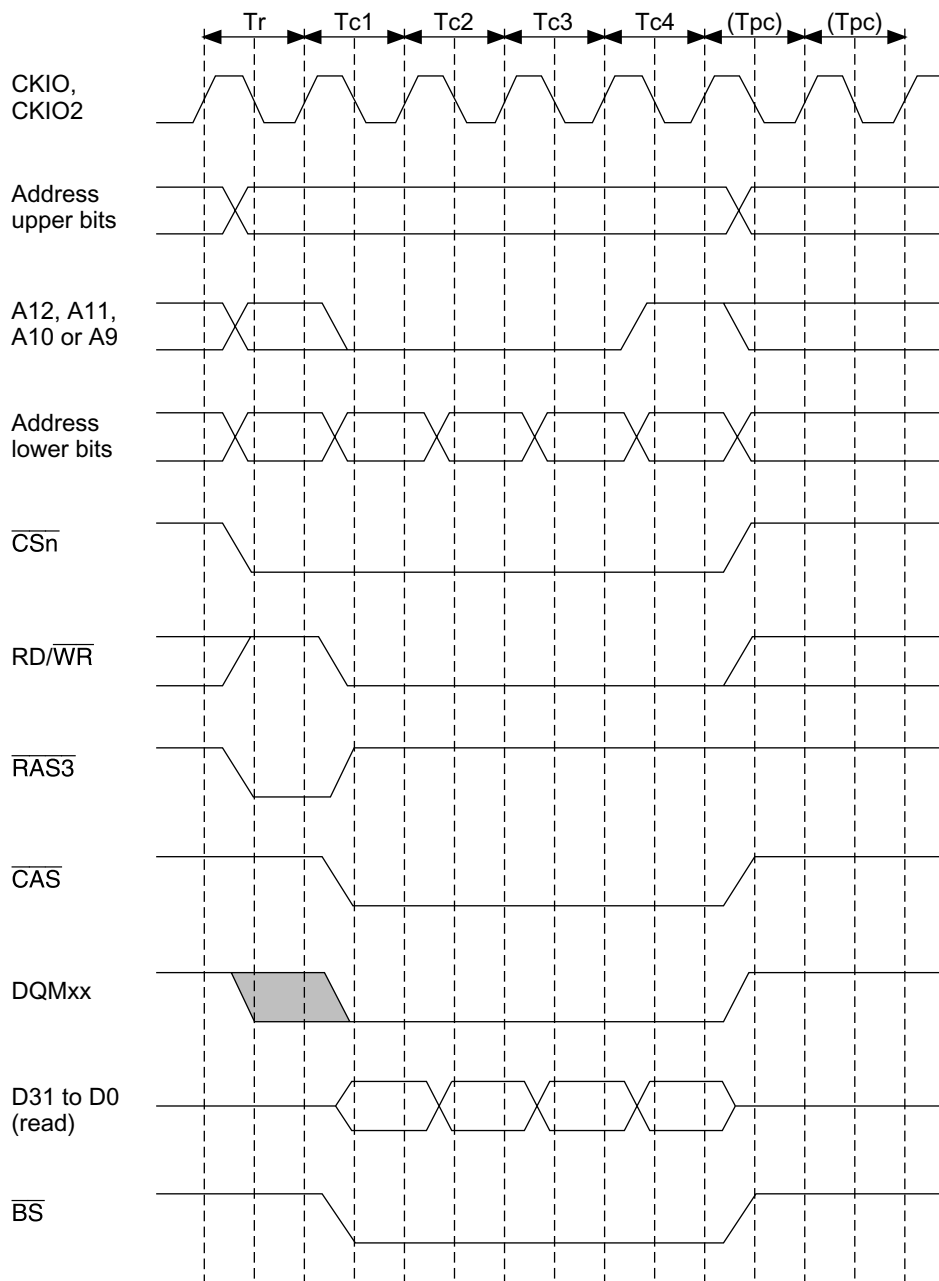

**Figure 12.16 Basic Timing for Synchronous DRAM Burst Write**
**Burst Write:** The timing chart for a burst write is shown in figure 12.16. In this LSI, a burst write occurs only in the event of cache write-back. In a burst write operation, following the  $T_r$  cycle in which ACTV command output is performed, a WRIT command is issued in the  $T_{c1}$ ,  $T_{c2}$ , and  $T_{c3}$  cycles, and a WRITA command that performs auto-precharge is issued in the  $T_{c4}$  cycle. In the write cycle, the write data is output at the same time as the write command. In case of the write with auto-precharge command, precharging of the relevant bank is performed in the synchronous DRAM after completion of the write command, and therefore no command can be issued for the same bank until precharging is completed. Consequently, in addition to the precharge wait cycle,  $T_{pc}$ , used in a read access, cycle  $Trwl$  is also added as a wait interval until precharging is started following the write command. Issuance of a new command for the same bank is postponed during this interval. The number of  $Trwl$  cycles can be specified by the TRWL bit in MCR.